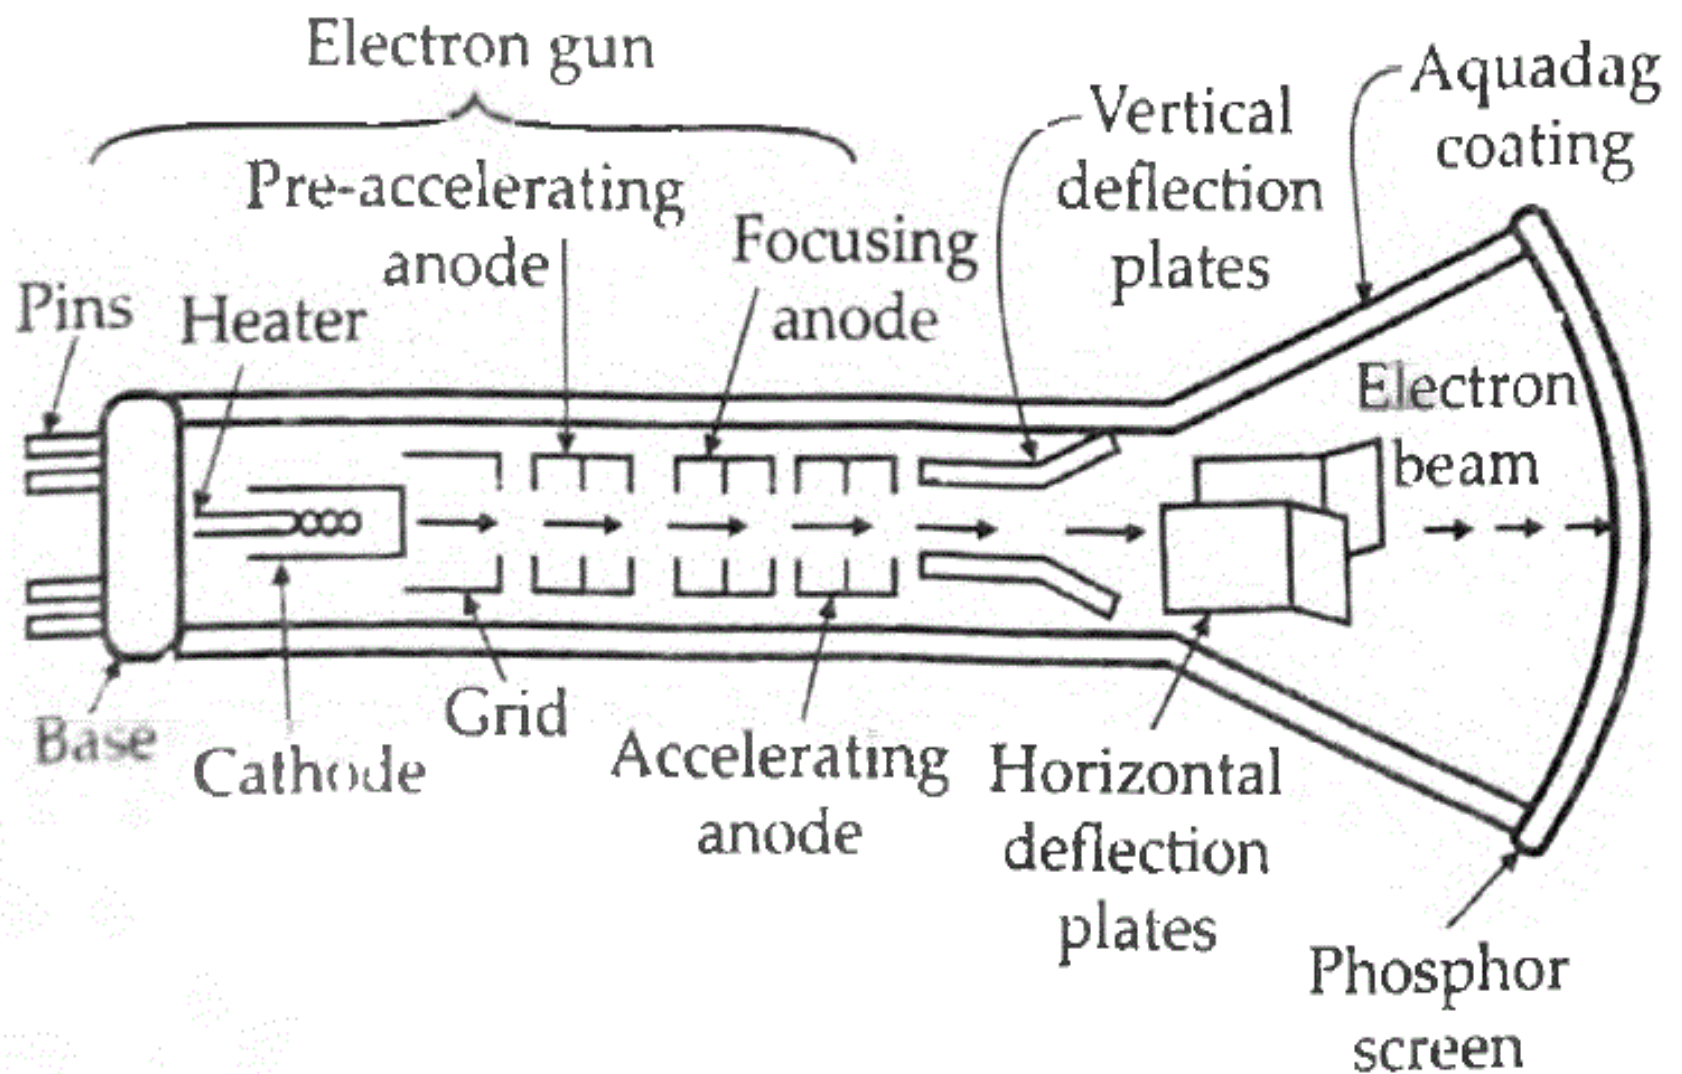

Fig. 21.1 Internal structure of a CRT.
- The main parts of a CRT are shown in Fig. 21.1. Before going into details of working of various parts of a CRT, a summary of functions of the different parts is given below :